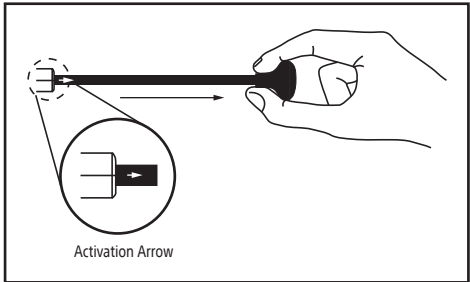

Figure 6. Long stents (150 mm) require the pull grip to be retracted only after the white activation arrow is visible to complete deployment.
- Continue to roll thumbwheel until the middle shaft radiopaque marker band [5] passes the proximal radiopaque markers of the stent resulting in full deployment, or until the white activation arrow is visible on pull grip extension rod (for 150 mm length stents), which indicates that pull grip activation is required to complete stent deployment (Reference Figure 6). Long stents (150 mm) will not be fully deployed by the thumbwheel alone.